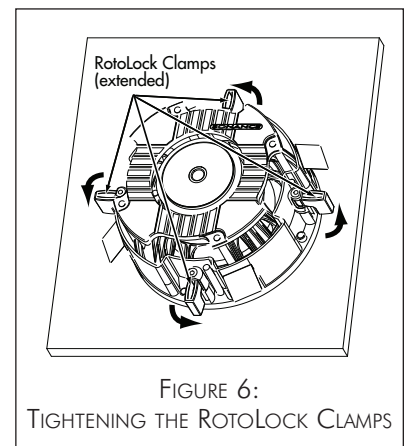

FIGURE 6: TIGHTENING THE ROTOLOCK CLAMPS
5. Tighten the four screws on the front of the speaker baffle. The RotoLock clamps will automatically rotate into position and begin clamping the speaker (*Figure 6*).